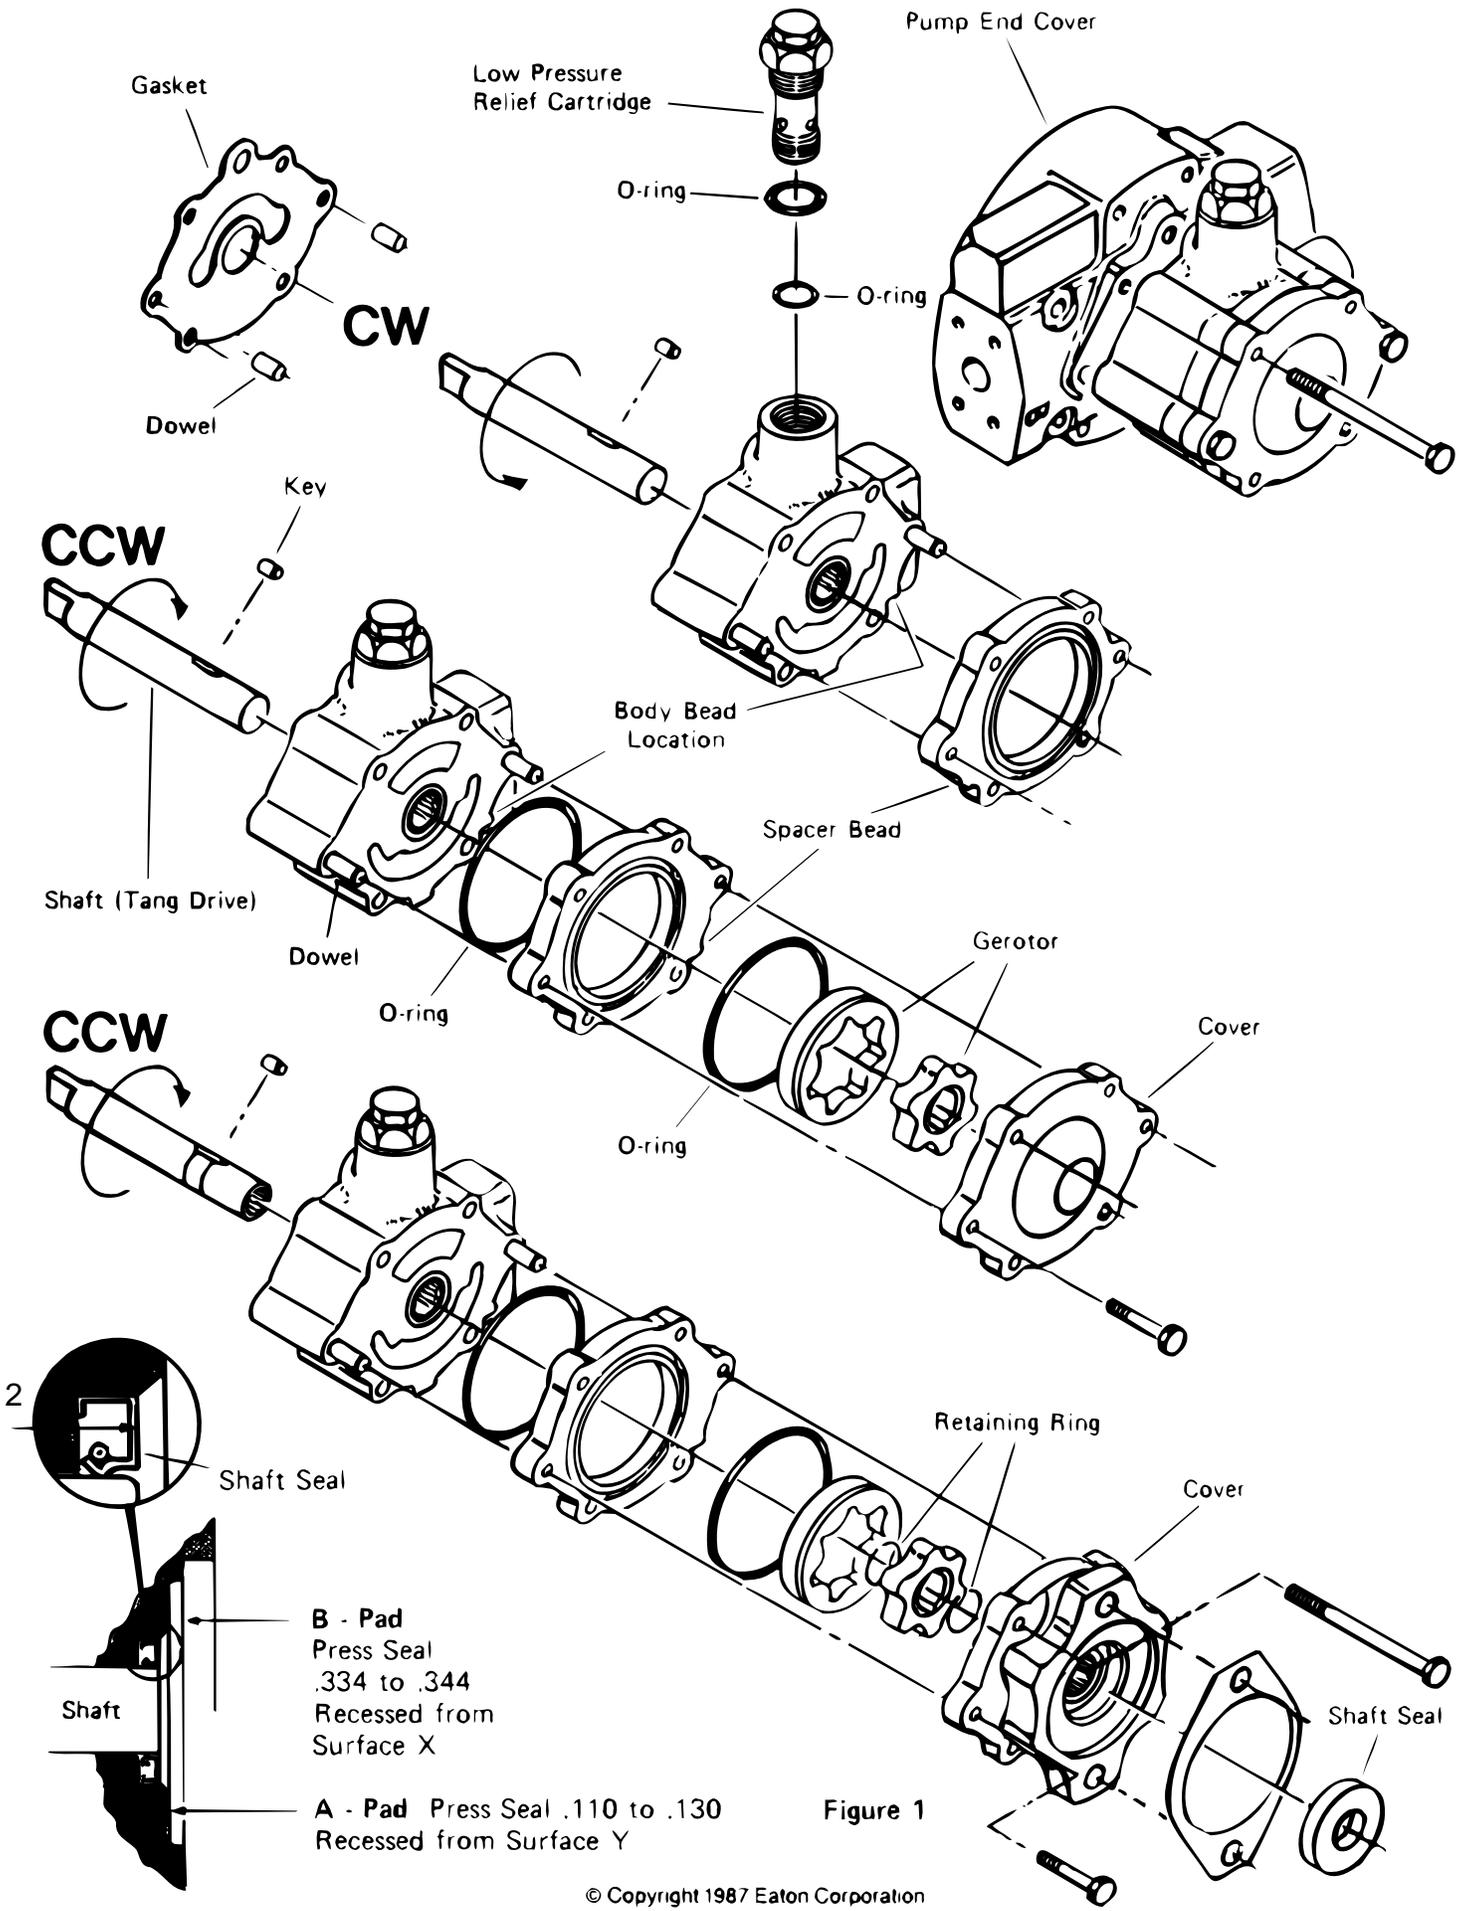

Figure 1
- 3** Install the spacer per the desired rotation. Refer to figure 1. For counterclockwise (CCW) rotation, align the beads on the spacer and body. For clockwise (CW) rotation, do not align the beads on the spacer and body.